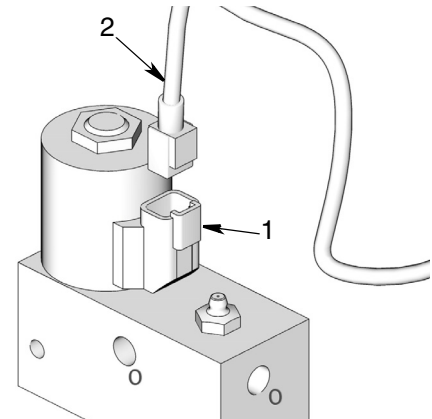

FIG. 5
8. Connect end of cable (2) to the lubrication system controller.
Connect cable connector (2) to solenoid valve (1) (FIG. 5).